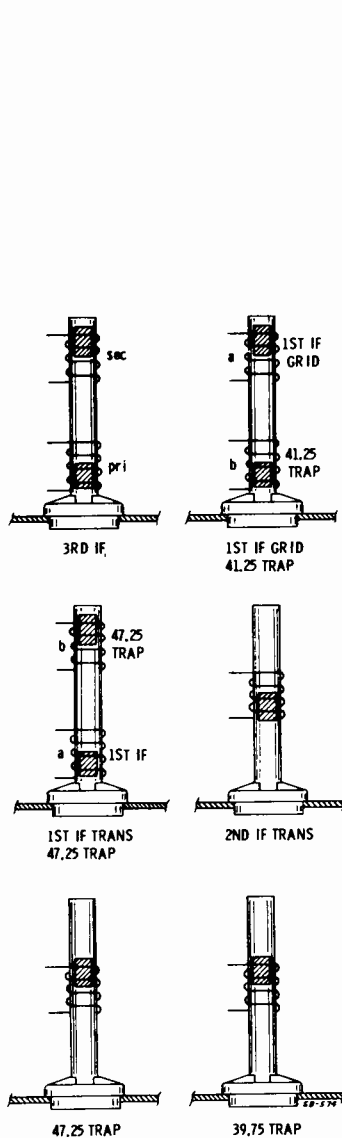

FIGURE 6. COIL CORE POSITIONS
5. All coil core tuning positions, in relation to chassis, are given in the procedure chart and in the illustration of Figure 6.